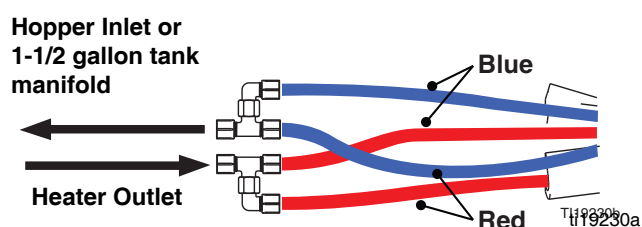

FIG. 10: Recirculation Inlet and Outlet Connections
1. Connect A and B fluid hoses to shutoff check valve fluid outlets (H).
2. Connect elbow fitting (17) in pump outlet (3) and elbow fitting (17) on heater inlet (A) with tubing (16).
3. Connect fitting (7) in the heater fluid outlet (A) and tee fitting (13) with tubing (4).
4. Connect tee fitting (42) and elbow fitting (41) to recirculation inlets and outlet connections of the heated hose. See FIG. 10.
5. Connect elbow fitting (7) to 1-1/2 gallon tank manifold (23) with tubing (4).